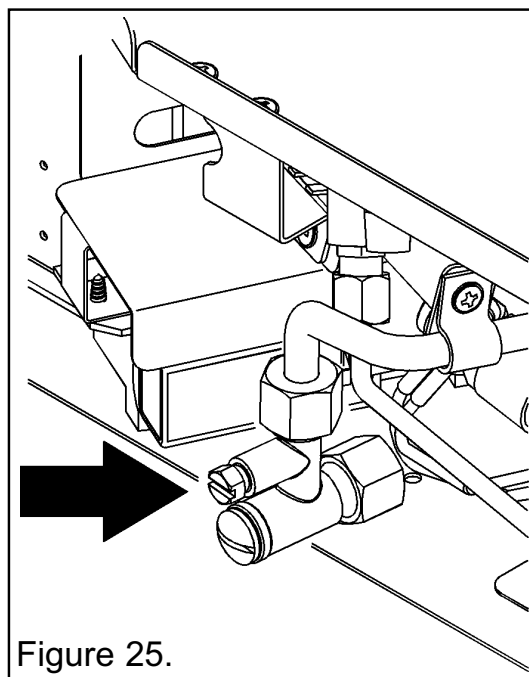

Figure 25.
1. Check the inlet pressure by fitting a pressure gauge at the test point. The test point is on the inlet 'T' connector (See figure 25). Check the pressure with the appliance alight and set at maximum output.